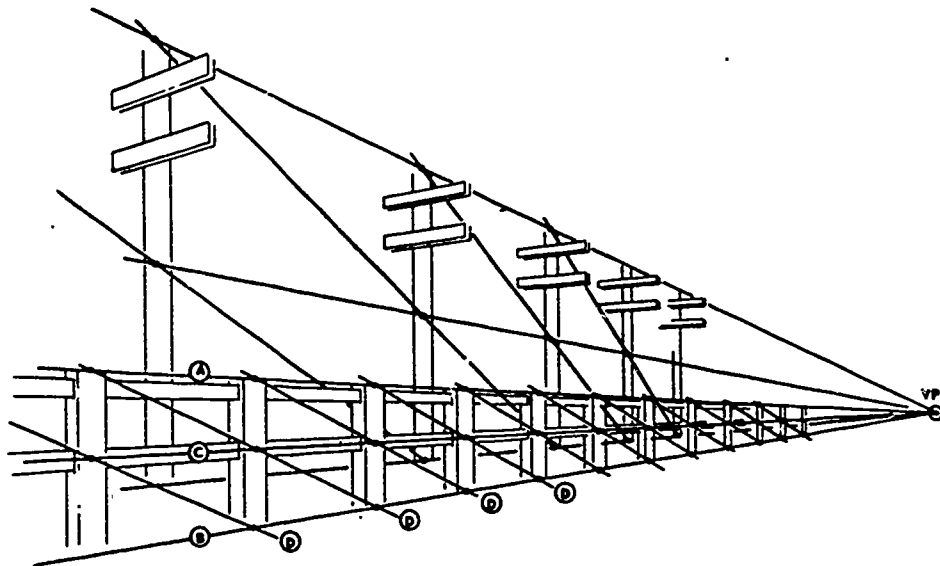

Figure 4-113. Vertical division.
Figure 4-113 shows the method for drawing vertical divisions of posts, telephone poles, or any object with evenly spaced units. First draw two posts any distance apart. Locate the vanishing point by drawing lines (A) and (B) from the two original posts. At no time should any posts extend above or below the receding lines. Locate the center of the first post, then draw a line through the center point of the first post to the vanishing point on the horizon. From the top of the first post, draw a line through the center of the second post. the third post will be located where the diagonal line touches line (B). Repeat this procedure as many times as you desire, doing one at a time.